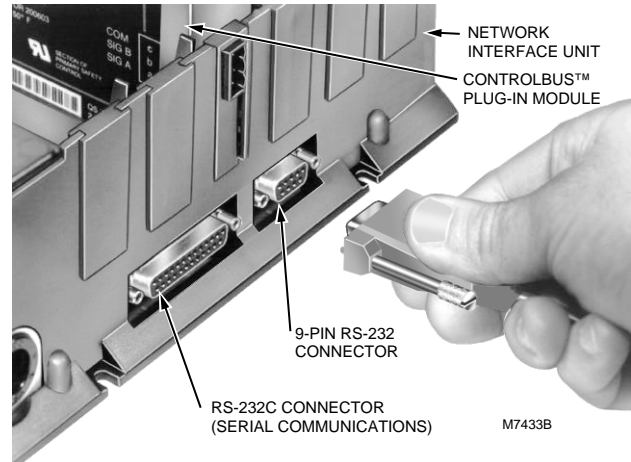

Fig. 4. Modem insertion, Network Interface Unit.
8. Connect the serial port of the modem to the 9-pin RS-232 connector of the Network Interface Unit (see Fig 4).